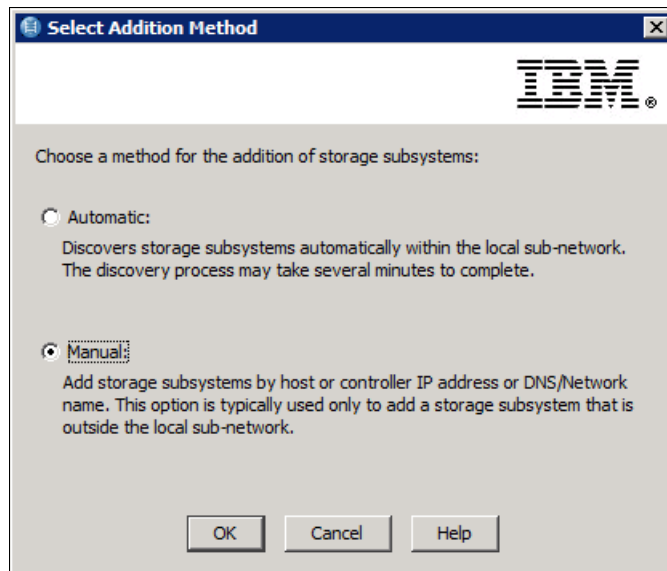

Figure 4-26 Select Addition Method - Manual
2. Select **Manual**, as shown in Figure 4-26, and click **OK**.